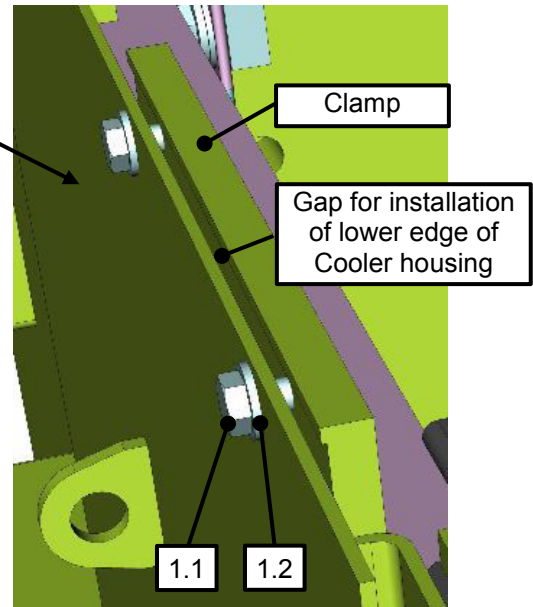

Figure 4-3 Preparation for installation of Cooler housing
Loosen all screws – position 1.1 (Figure 4-3, Page 12) for preparation of the maximal gap between the damping cover and its clamps to ensure easy installation of the cooler housing.
Lower section of the cooler housing must be inserted to the installation gap between the damping cover and its clamps see Figure 4-3.
9. Tighten all screws position 1.1 (Figure 4-3) to complete installation of the cooler housing.